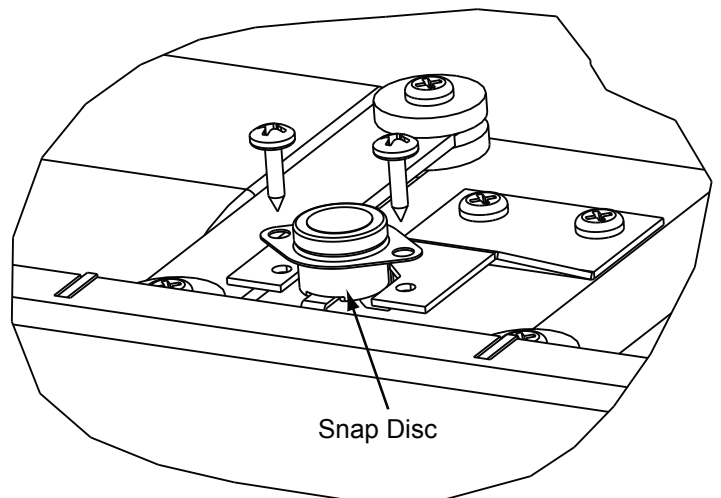

Figure 26.4
3. Pull the snap disc and spade connectors up and out of bracket as shown in **Figure 26.4**.